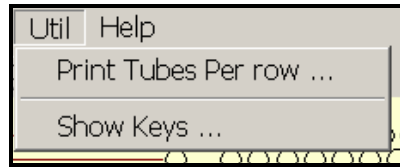

Figure 16. Util Menu
As shown in Figure 16, the **Util** menu contains two (2) choices. Each item is discussed below.